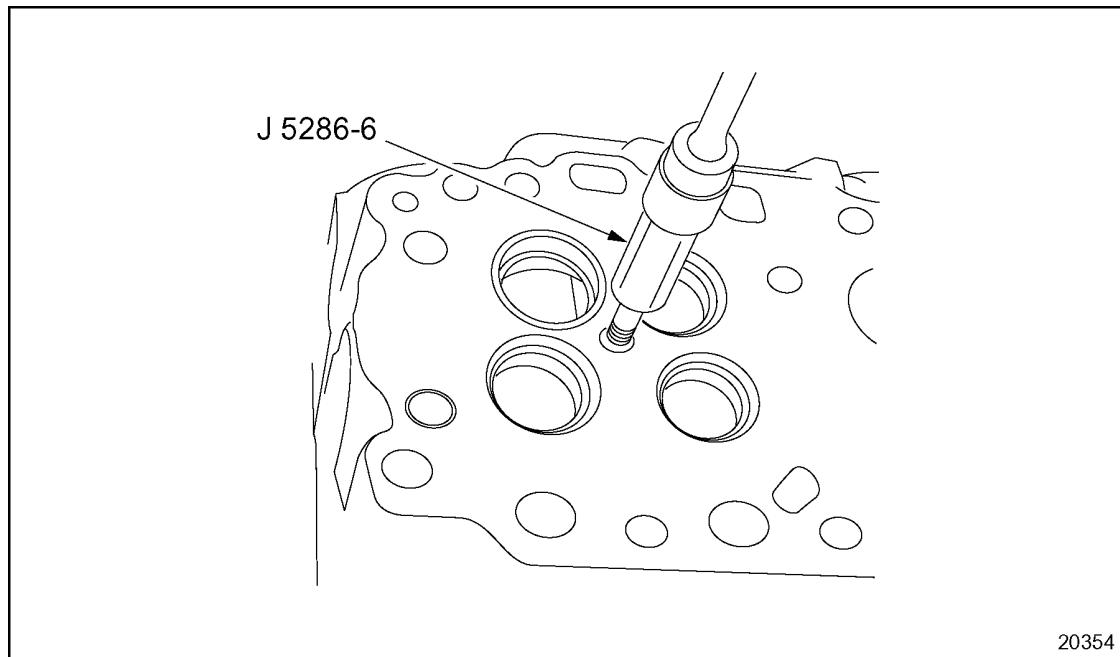

Figure 2-19 **Flaring Injector Tube Tip**
2. Using a torque wrench and 12-point, 29/32 in. socket, screw the flaring tool into the tube installation/removal tool until it begins to flare the tube. See Figure 2-19.